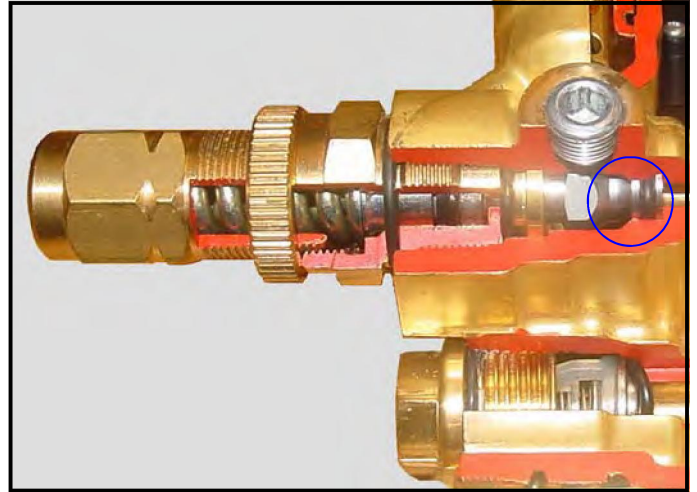

Fig.F.26: Pressure regulation - Cut away
- Refer to numbers on fig.F.26.